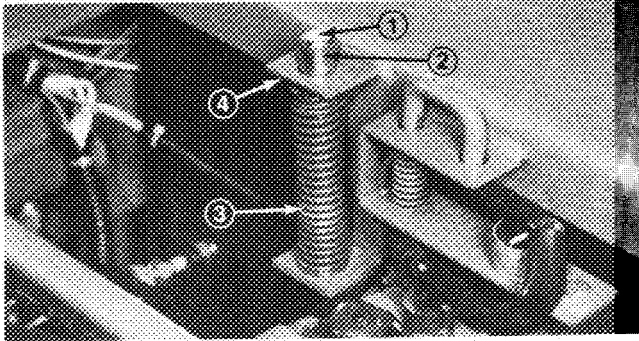

Figure 4
7. Secure olive colored spring from deluxe seat kit and pin to seat support bracket by compressing spring and inserting roll pin through pin (Fig. 4).